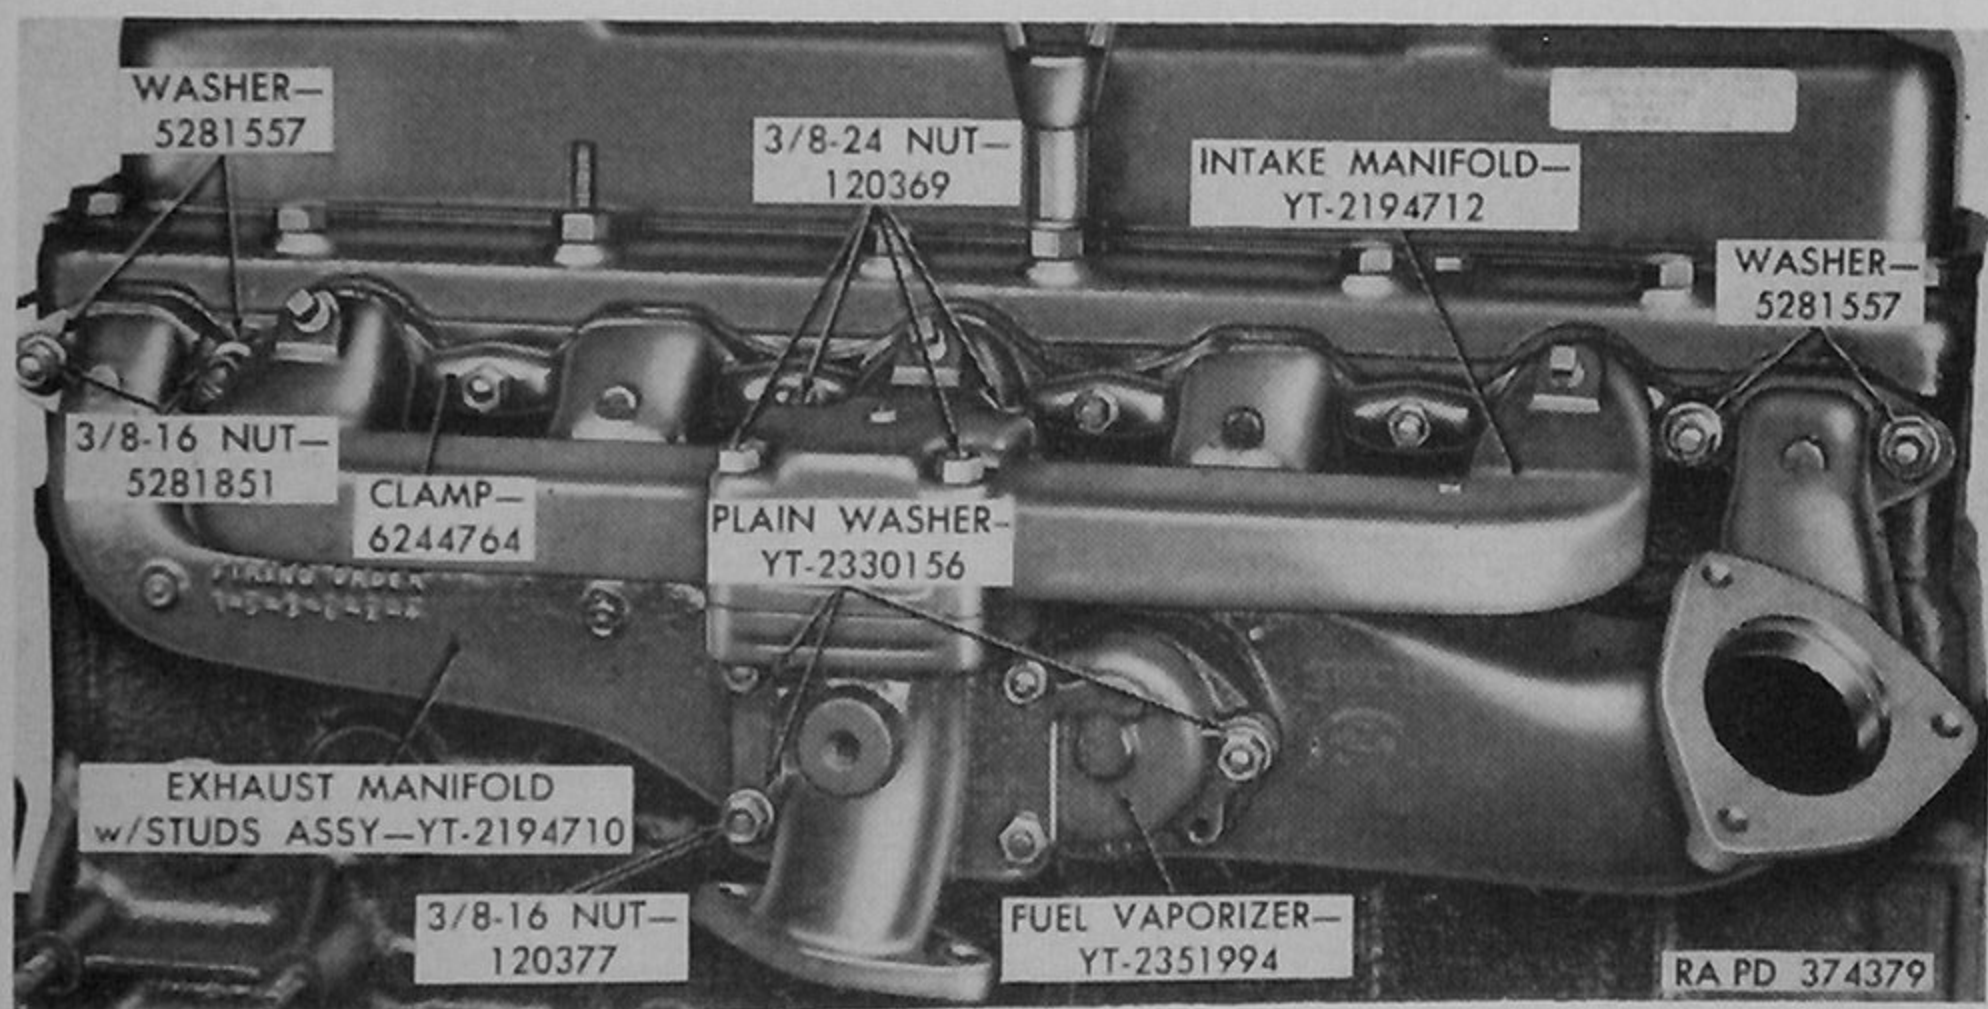

Figure 169. Intake and exhaust manifolds installed—engine assembly 8726920.
- (1) Place vaporizer gasket (K) on studs in exhaust manifold with studs assembly (F). Place fuel vaporizer with studs assembly (L) over studs on exhaust manifold and install three  $\frac{3}{8}$ -
inch plain washers (E) at locations indicated in figure 169. Install five  $\frac{3}{8}$ -16 nuts (D) on vaporizer-to-exhaust manifold studs and tighten nuts to 20 to 25 pound-feet torque.
- (2) Place gasket (C) on studs on fuel vaporizer (L), then install intake manifold (B) on vaporizer and install four  $\frac{3}{8}$ -24 nuts (A) on studs. Tighten nuts to 6 to 11 pound-feet torque. Final tightening is done after manifold assembly is installed on engine.